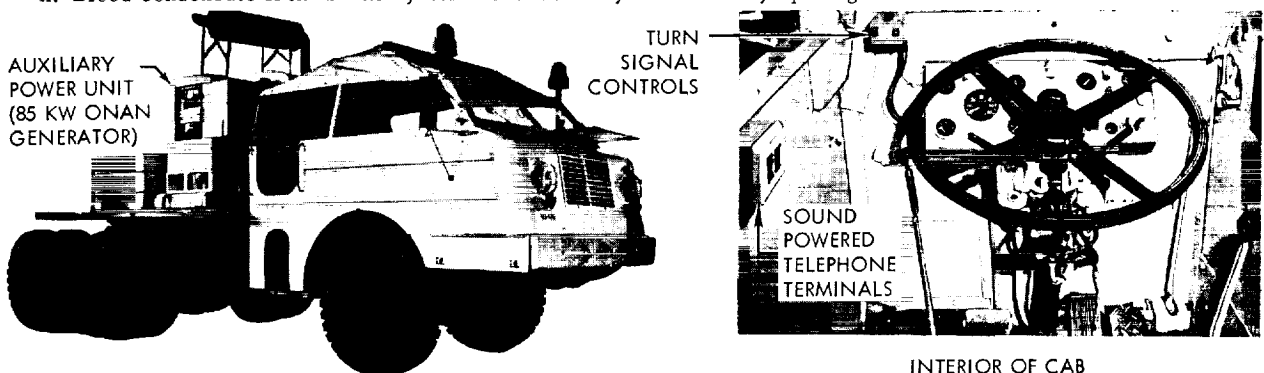

Figure 3-1. M26-A1 Prime Mover
3-8. M26-A1 PRIME MOVER CHECKOUT. Perform the following checkout of M26-A1 prime mover prior to operation per figure 3-1 as follows:
- j. Remove the dust caps from the service air coupling quick disconnect (90M00381) as identified by the adjacent tag and connect to the mating quick disconnect (5) on the transporter adjacent to the tow bar connection on the front transverse beam.
- k. Remove the dust cap from the emergency air coupling quick disconnect (90M00382) as identified by the adjacent tag and connect to the mating quick disconnect (4) on the transporter adjacent to the tow bar connection.
- l. Connect the P-2 end of power cable assembly (8) (90M00505) to the 31W0J2 receptacle located near the tow bar connection (1) on the front transverse beam.
- m. Connect the P-2 end of the communications cable assembly (9) (90M00442) to the 32W1-J2 receptacle located near the tow bar connection.
- n. Connect two (2) sound powered headsets to the prime mover J-box (figure 3-1) for the M26-A1 operator and the ground control.